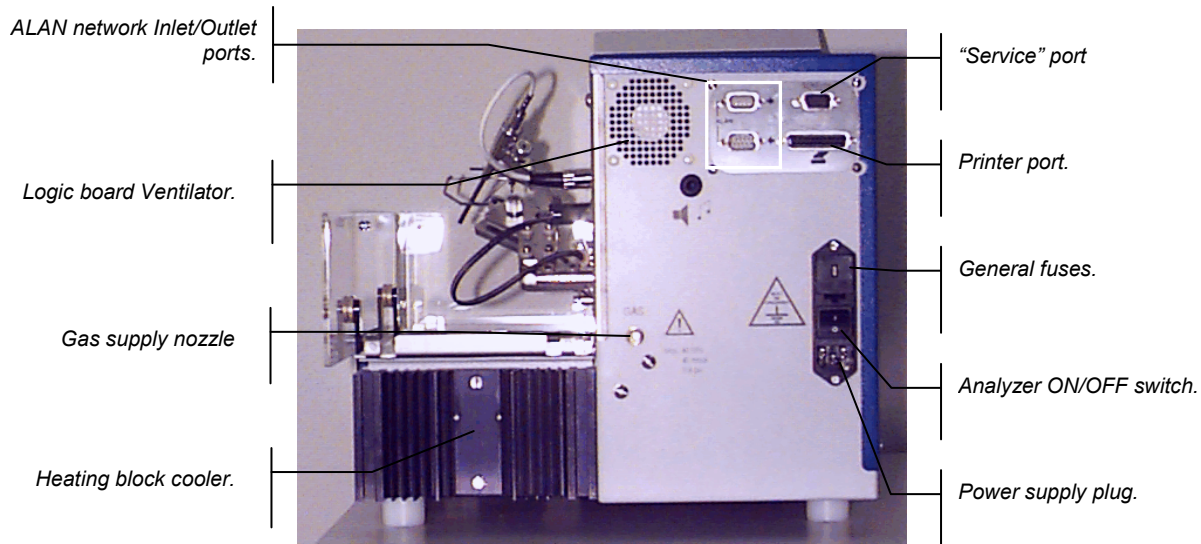

Figure I-5: Analyzer rear view.
- Connect the gas supply to the adapter hose nipple (N) at the rear of the Analyzer (see Figure I-5 above).
Connect the printer to the parallel printer connector (see Figure I-5 page I-31) at the rear of the Analyzer before switching on the Analyzer or the printer. Once the Analyzer and the printer have been switched on, carry out a link check (as described in the chapter 5 - Diagnostics and measures : the "Service" menu page II-73).
Each analyzer connects to the Alan[®] network via the RS485 serial interface through two ports (input/output) located on the rear panel (see Figure I-5 page I-31).
- Switch on the main ON/OFF switch, (see Figure I-5 page I-31), at the rear of the Control Unit.